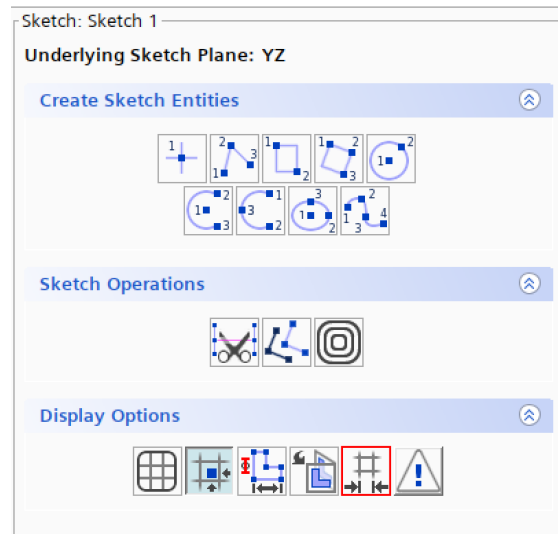

Figure 5: Set Sketch Grid Spacing icon.
- Click on the Set Sketch Grid Spacing icon under the Display Options section. This icon is shown in Figure 5.